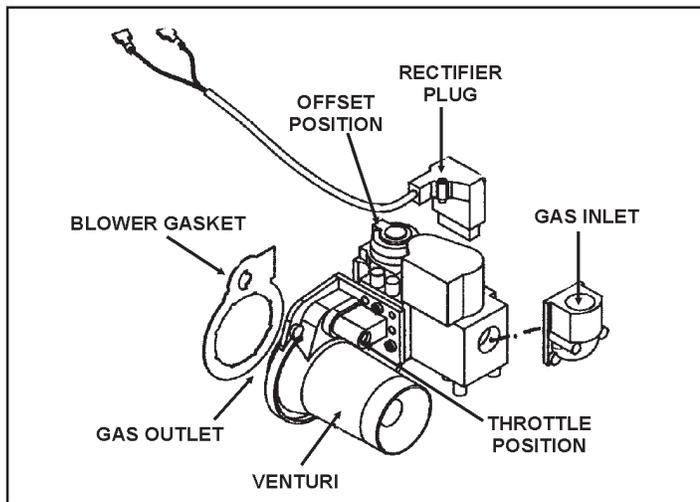

FIGURE 14a. BTH 199/250 Models Only
1. When connecting gas pipe to unit, apply wrench to flange only. Note: Do not use wrench on gas valve or gas bracket. See Figure 14a, b, c.